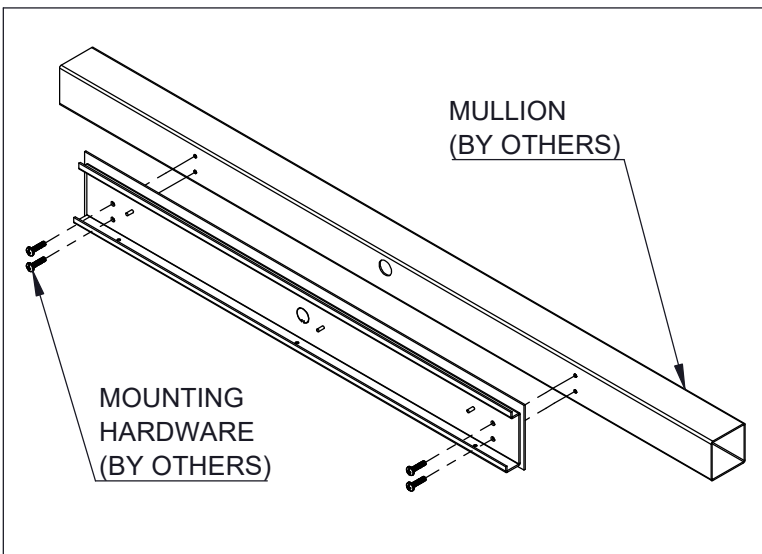

Figure 3
3. Attach Mounting Plate to Mullion (provided by others) with Mounting Hardware (provided by others) (Fig. 3).